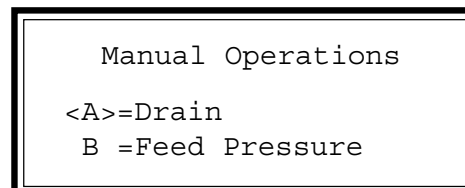

Figure 6-46 Manual Operations Screen
2. Press B. The Manual Operations screen (Figure 6-46.)